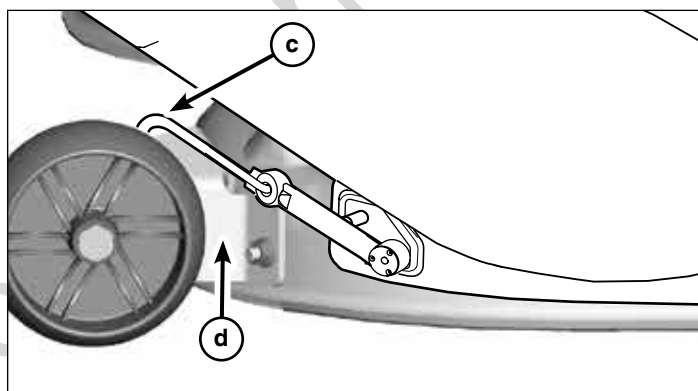

Figure 15
2. Secure the hook (c, Figure 15) of the mounting strap onto the gage wheel bracket (d).